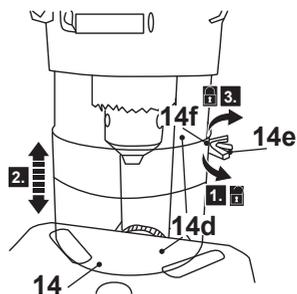

Fig. 9
1. Adjust the cover (14d) of the chuck guard (14) depending on the drill bit length and workpiece to be drilled.
2. Hold one hex bolt (14f) using a suitable wrench and loosen the wing nut (14e) but do not remove it (Fig. 9, step 1). Repeat for the other hex bolt (14f) and the wing nut (14e).
3. Adjust the cover (14d) height according to your needs (Fig. 9, step 2).
4. Screw the wing nuts (14e) to hold the cover (14d) in position (Fig. 9, step 3). Do not overtighten to avoid cracks.